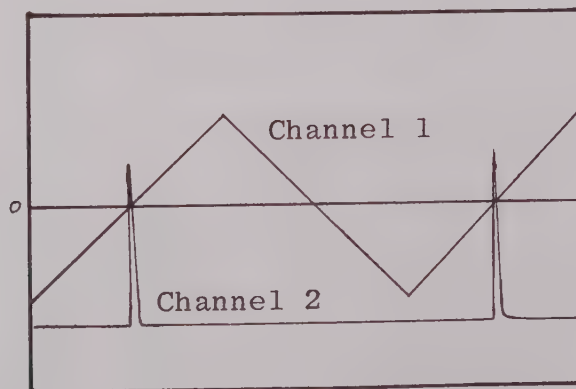

Figure 8-1. Phase Lock Pulse Adjustment
- k. Adjust R437, 9.96kHz frequency adjustment, to position phase lock pulse coincident with zero crossing of rising portion of 30Hz Ref triangle wave. See figure 8-1.